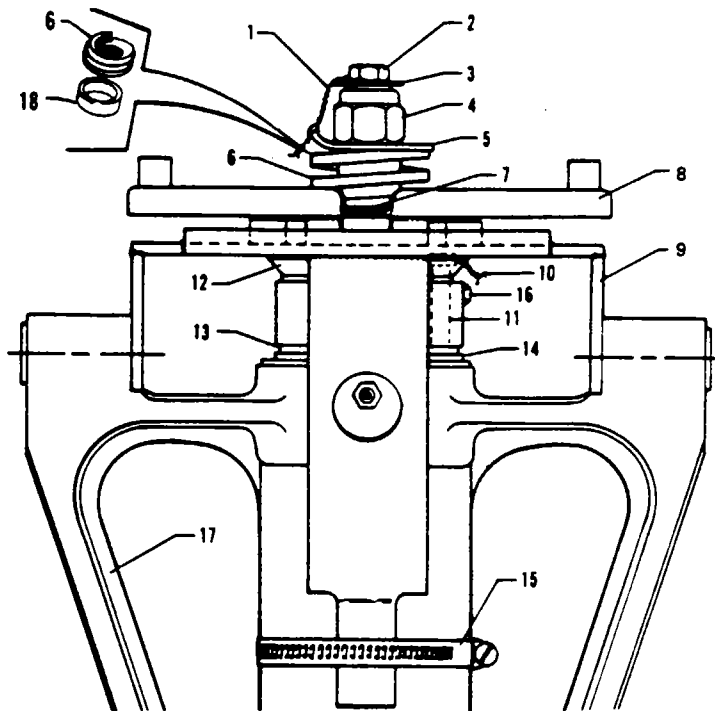

Figure 32-6. Nose Gear Oleo Strut Assembly
10. At the top of the oleo housing, as shown in Figure 32-6, install on the cylinder the aligner guide bracket and the plate assembly. Torque cap bolts, 30-35 in.-lbs. and safety with MS20995C51 wire. Install steering arm, special washers, sleeve, spring, washer, nut with torque of 550-560 in.-lbs., washer, bolt with torque of 45-70 in.-lbs., and safety with MS20995C51 wire.
REMOVAL OF NOSE LANDING GEAR. (Refer to Figures 32-6 and 32-7.)